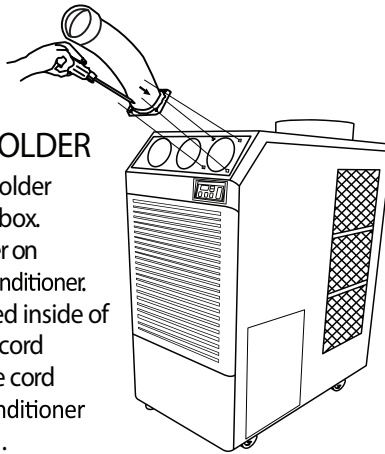

Figure 2
3. Use screws (enclosed inside of box with cool air outlet hose(s) to install the cool air outlet hose(s) on the air conditioner as shown in Figure 2.